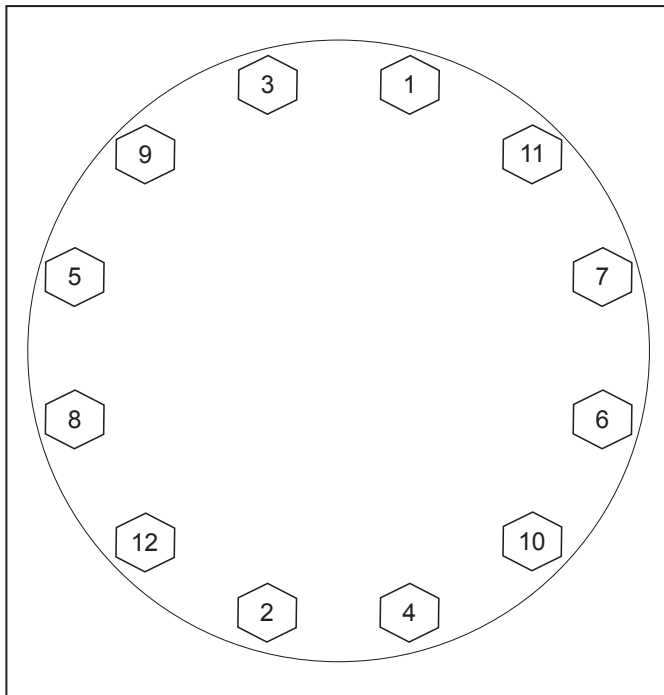

Figure 3. Twelve Bolt Tightening Sequence
1. The diaphragm (670) may pull off with the diaphragm head or remain with the displacement chamber. Remove diaphragm (670). (When equipped with leak detection remove two diaphragms, leak detection ring A (8081), leak detection ring B (8080), and leak detection ring spacer (8082). Leak detection ring A, leak detection ring B, and leak detection ring spacer can be reused). See 54148, double Diaphragm Leak Detector Manual.
7. For metallic liquid ends, apply anti-seize to the diaphragm head bolts. Install the diaphragm head bolts in accordance with the following torque specifications. Bolts should first be torqued, in the sequence shown in the appropriate figure (*figure 3 or 4*) to one half of the value shown below. Following the same sequence, each bolt should then be torqued to the above final value. The pressure is the maximum discharge pressure listed on the pump nameplate. The bolt torque value stamped on the head only applies to the material grade supplied with the pump.